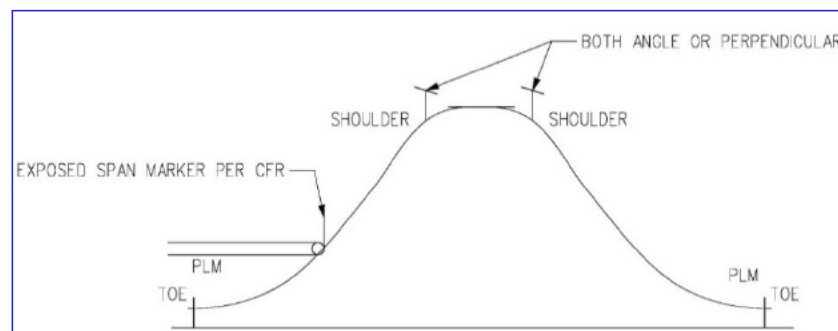
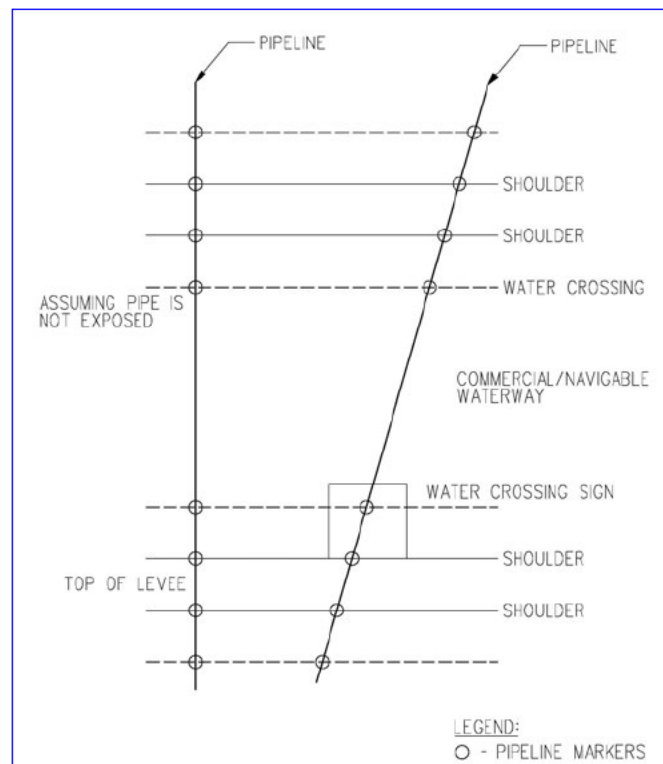

Figure 1. Cross Section
Figure 2. Plan View
- b. Install crossing signs, in conjunction with pipeline markers, at stream crossings where, in the judgment of the local engineer, they could be of value in providing protection and public awareness for the waterway and levee crossing. See Figure 1, "Cross Section," and Figure 2, "Plan View" below for location of markers.